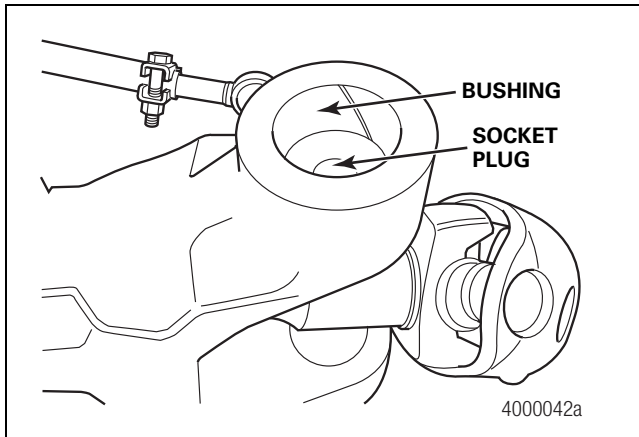

Figure 3.21
6. Inspect the upper and lower bushings for wear or damage while they're still in the housing sockets. Figure 3.21. Use the following procedure to remove worn or damaged bushings.